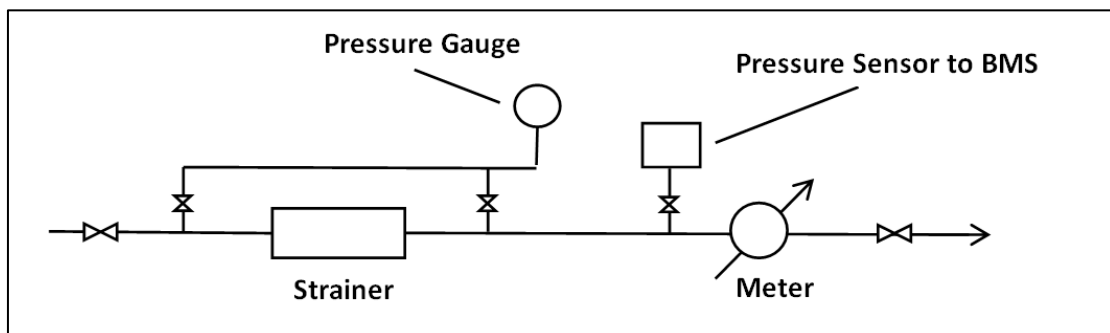

Figure 4: Typical water connection to building
- Must be installed above ground in the configuration shown in Figure 4